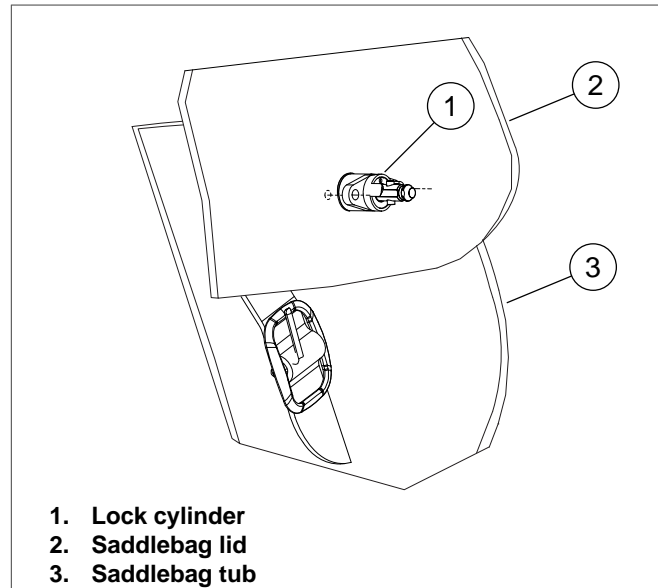

Figure 4. Lock Cylinder Used as Drill Template
8. See Figure 4. Insert the lock cylinder (1) upside down through the two large holes created in steps 6 and 7 as a template. Orient the lock cylinder in the desired location. Mark the two outer holes. Make sure that the lock is engaged in both holes to verify that holes will line up.